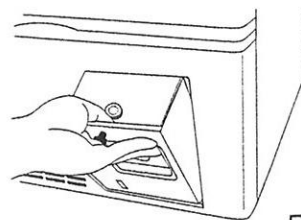

Fig.3
5. Mount the recorder fixture with recorder to the mounting space in the unit. (Fig. 3)